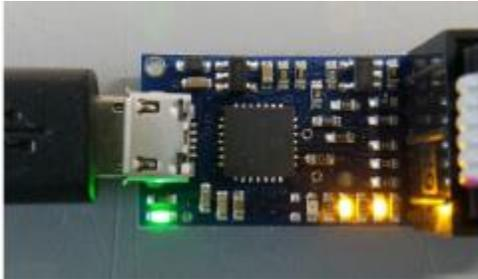

Figure 1 Pololu Programmer LEDs
4. Attach the USB cable from the computer to the USB connector of the Pololu programming device. See Figure 1.
6. Verify programmer LEDs are illuminated as per Figure 1 to validate that 5v power is being applied by the programmer. You can now safely close the Pololu USB programming software configuration program.
7. Attach the 6-pin ribbon cable from the programmer to the ICSP connector on the SD DDP PCB. The red strip on the ribbon designates Pin-1 of the connector. See Figure 1 and 2 for details.